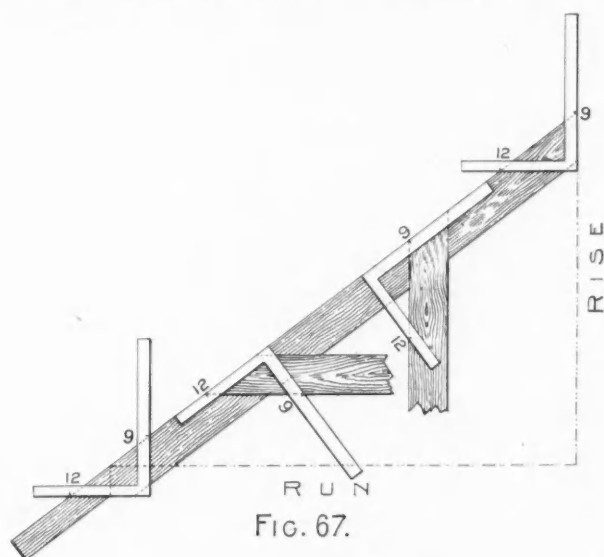
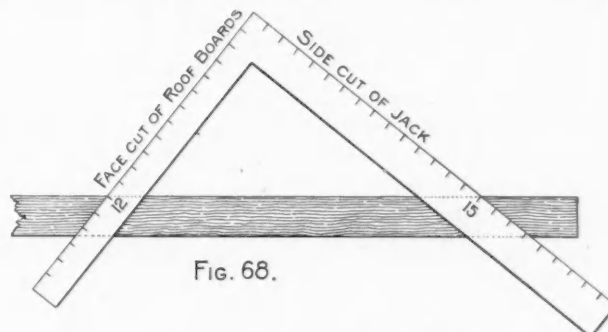

FIG. 67.
FIG. 68.
For example we will take the 3/8 pitch. Take 9 on the blade. Why? Because, the run being 12 inches, the span must be two times 12, which equals 24, and since the pitch is reckoned by the span, we find that 3/8 of 24 is 9, and therefore represents the rise to the foot run. Then 12 and 9 gives the seat and plumb cut of the common rafter. They also give the cuts for the gable boards resting either horizontally or perpendicular as shown in Fig. 67. Take the length of the common rafter (15) on the blade and the tangent (12) on the tongue, and the blade will give the side cut of the jack as shown in Fig. 68. These figures will also give the side cut across the face of the roof boards to fit in the valley or over the hip. The tongue giving the cut. These figures will also give the side cut of the hip if the same has been previously backed and the square applied to the backing plane. The blade giving the cut. They also give the cut across the top of the